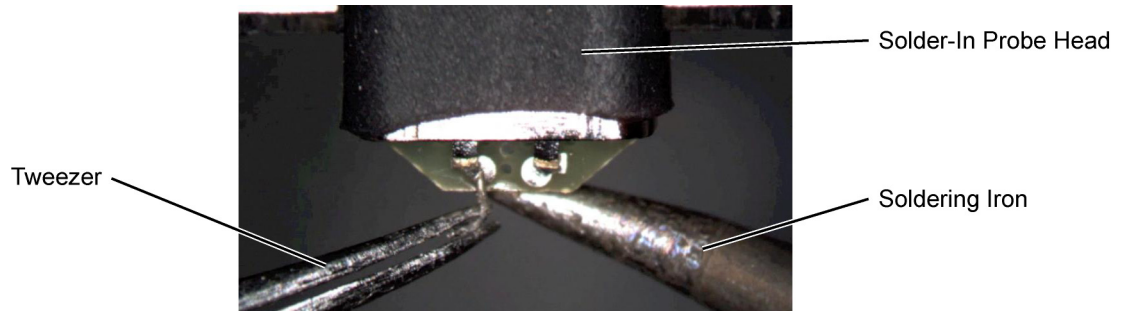

Figure 54 Removing the Old Wire
- 2 As shown in **Figure 54**, remove the old wires with tweezers while re-flowing the solder from the underside of the probe.